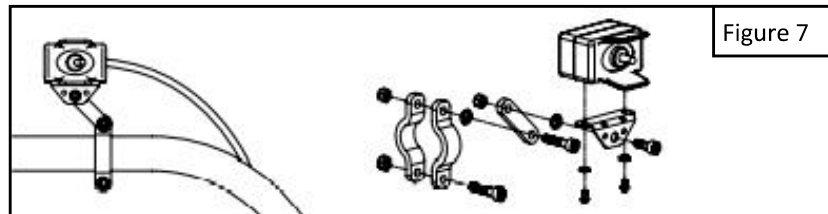

Figure 7
2. Using the supplied clamps, bracket, and hardware, mount the switch. **See Figure 7.**